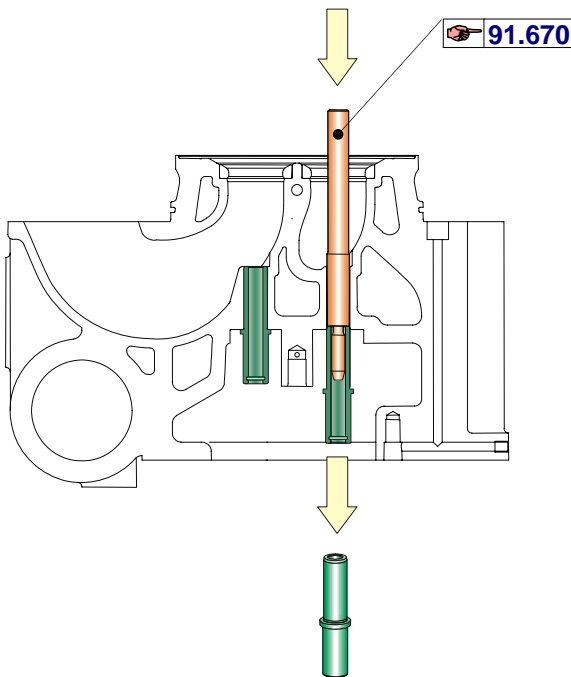

Fig. 3 Dismounting of valve guide
If a valve guide exceeds the wear limit or damaged (see  G09200), then the valve guide should be replaced by a new one. When extracting and fitting the valve guide, same tool can be used as shown in fig 3.
1. Mount the tool as shown in fig 3.